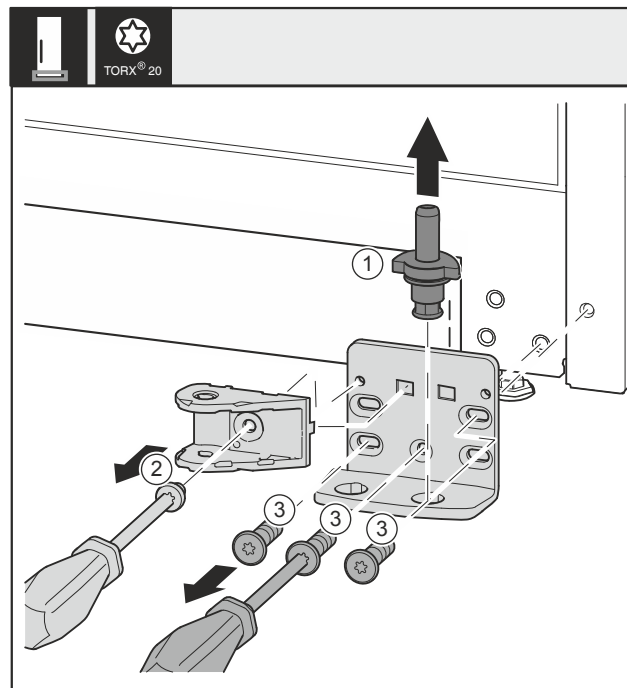

Fig. 32 \*
- ▶ Pull the bearing bolt Fig. 32 (1) out upwards completely.\*
- ▶ Use screwdriver to unscrew the screw Fig. 32 (2) and remove the closing damper connection.\*
- ▶ Use screwdriver to unscrew the screws Fig. 32 (3) and remove the swap bearing block.\*